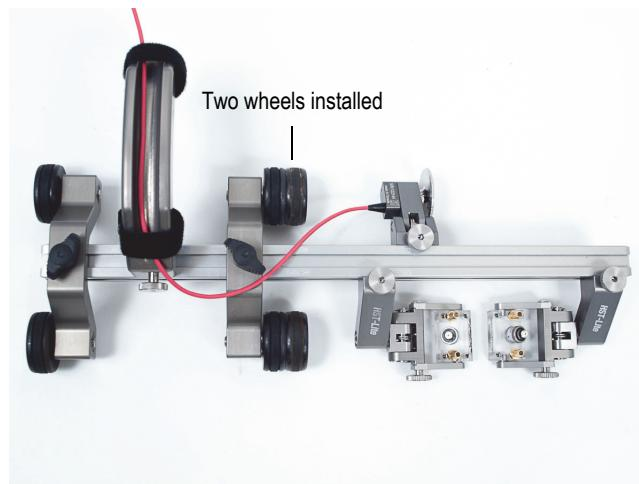

Figure 1-24 Offset configuration
1. Install the scanner components as shown in Figure 1-24 on page 37.